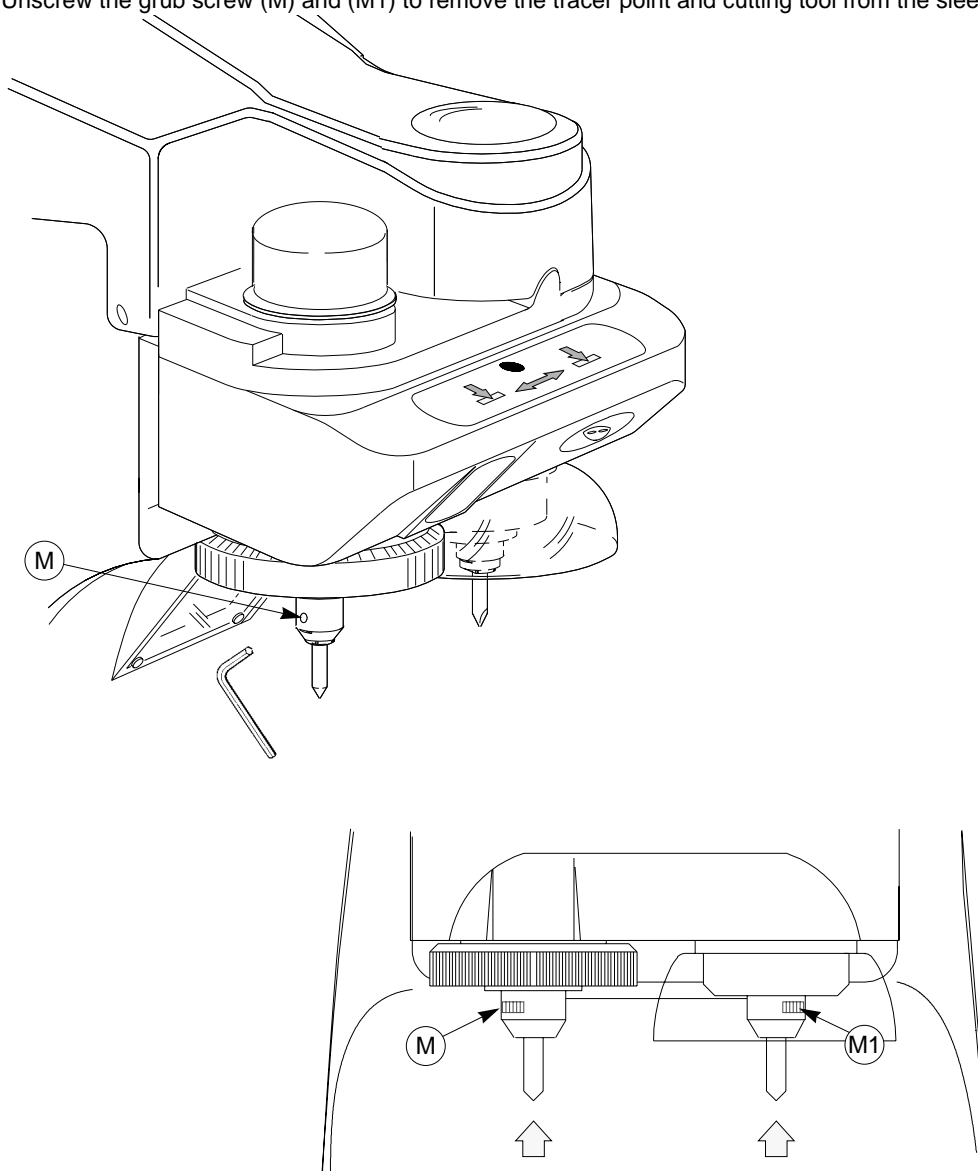

Fig. 8
- 1) place the tracer point all the way into the left-hand sleeve and secure by tightening the grub screw (M) (fig. 8).